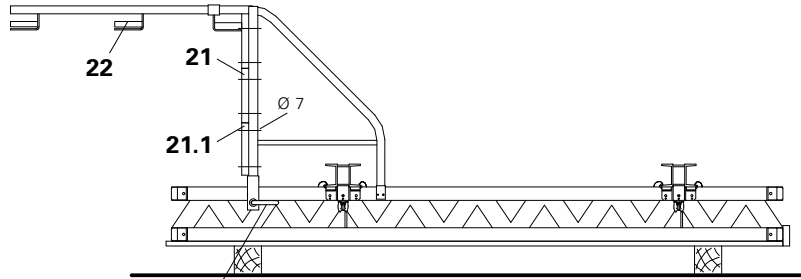
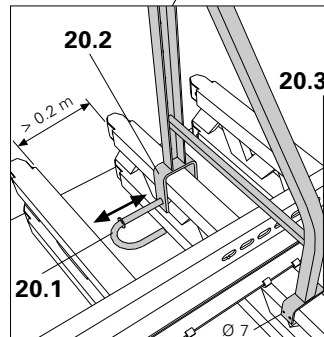

Fig. B2.02
Fig. B2.02.1
- (Fig. B2.02.1)
3. Fix planking (21) across complete bracket width from below using Torx 6 x 40 (21.1).
- (Fig. B2.02)